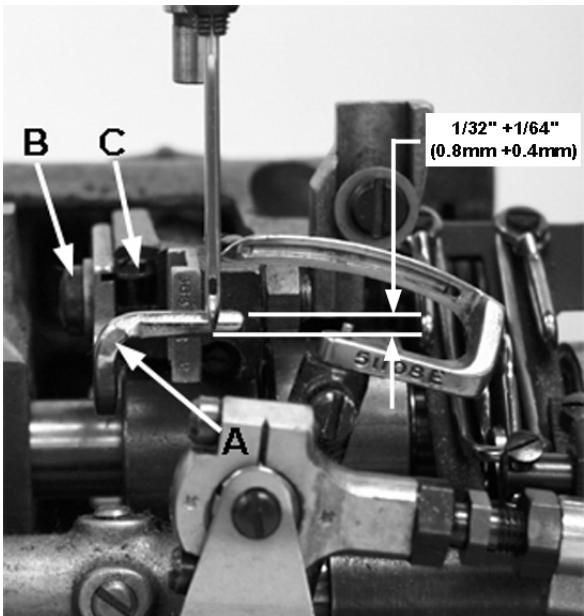

Fig 13
Rotate handwheel in operating direction to position looper point to just enter the scarf of needle. At this time the needle guard (A, Fig 13) should be at its extreme end of forward travel. Set the guard front to back as close as possible without touching the needle. Guard should be set as low as possible, yet have its vertical face approach above the needle point  $1/32" +1/64"$  ( $0.8\text{mm} +0.4\text{mm}$ ). To move the needle guard forward or backward, loosen the screw (B), move needle guard as required, and retighten screw. To raise or lower needle guard, loosen screw (B), and turn screw (C) clockwise to lower needle guard or counterclockwise to raise it. Retighten screw (B) after guard is properly set.